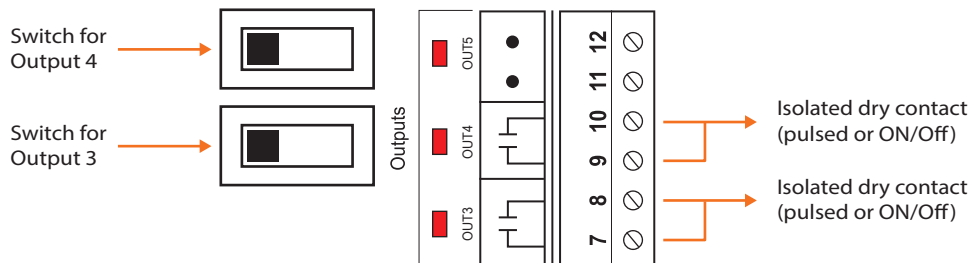

Figure 18 - Output in SINK mode
2) Switch position to obtain a **passive output** (see Figure 18):